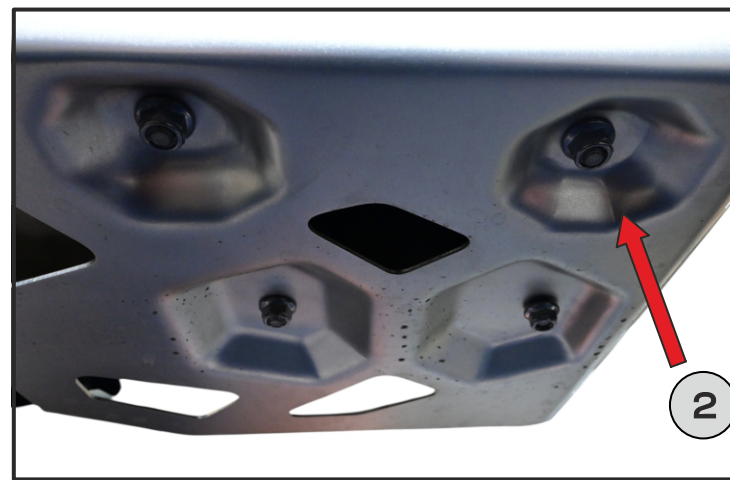

Fig. 4
2. Remove the OEM engine guard by unscrewing the nuts located underneath. [Fig. 3], [Fig. 4]